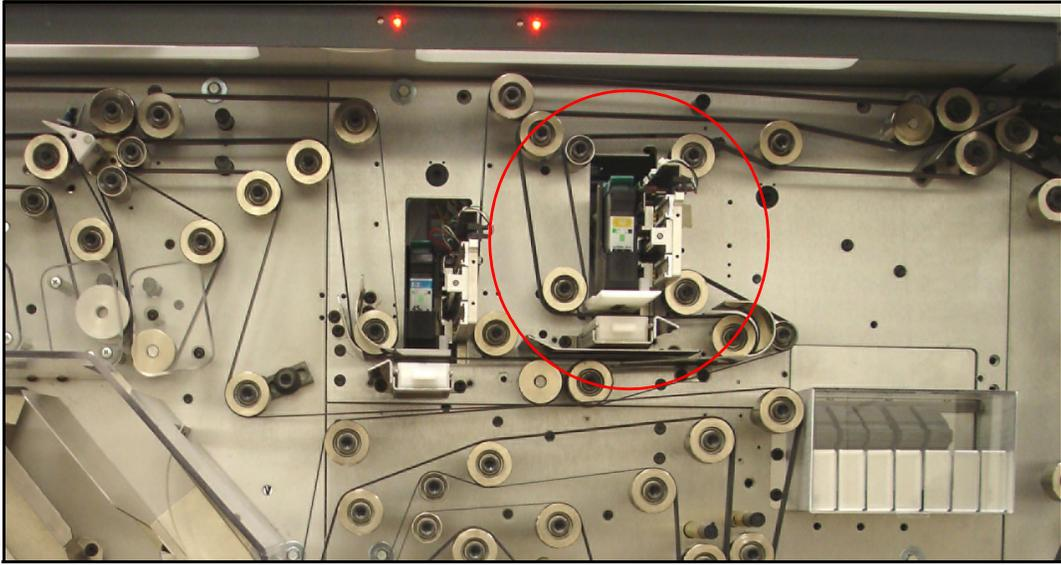

Figure 6-11: Extended print head
2. Press the appropriate **Replace** button. The print head will extend forward for you to replace the cartridge (Figure 6-11).